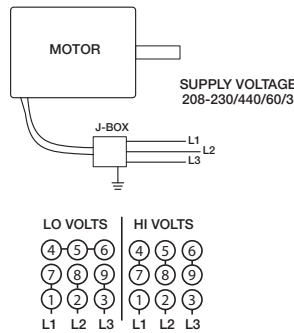

Figure 16 — Wiring Diagram
1. Connect the power in accordance with the NEC and all local codes. Refer to Figure 16 for the wiring diagram.